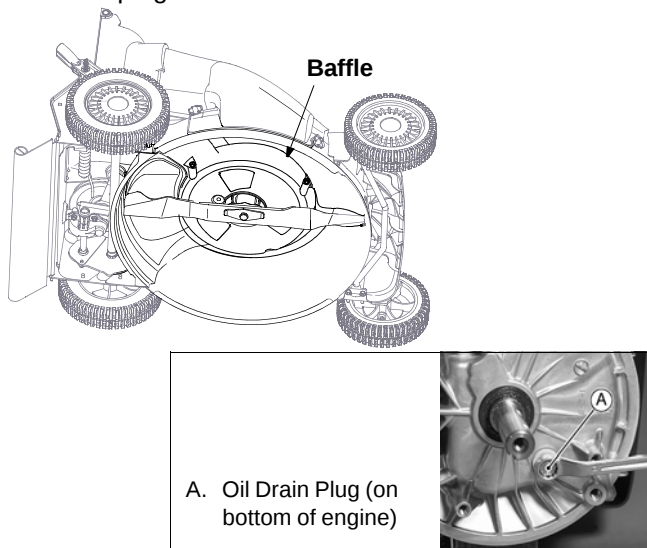

Figure 12
- Run the engine for a few minutes and stop the engine. Tip the mower as shown in Figure 12.
- Access oil drain plug by removing the baffle and other components following instructions in "Changing Belts" section in operator's manual for lawn mower. See Figure 12 for location of baffle.
- Remove the oil drain plug from bottom of the engine. See Figure 12 inset for location of the oil drain plug. Drain oil into suitable container.